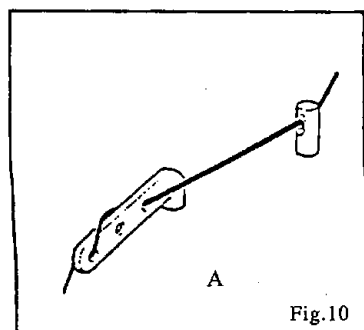
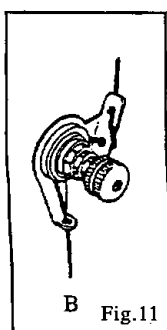
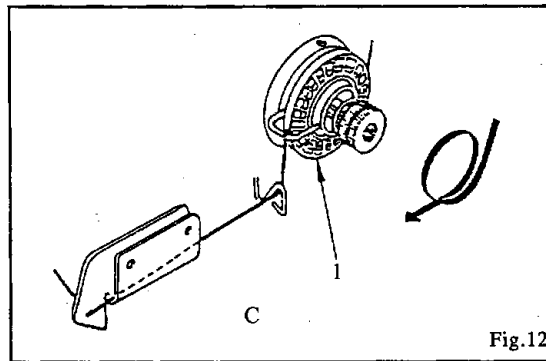

Fig. 10
Fig. 11
Fig. 12
Pass the thread from the unwinder through threading points A (Fig. 10), B (Fig. 11), C (Fig. 12) and D (Fig. 13) in the order shown.
NOTE: When passing thread through threading point C (Fig. 12), wind thread around rotary tension wheel (1) once.